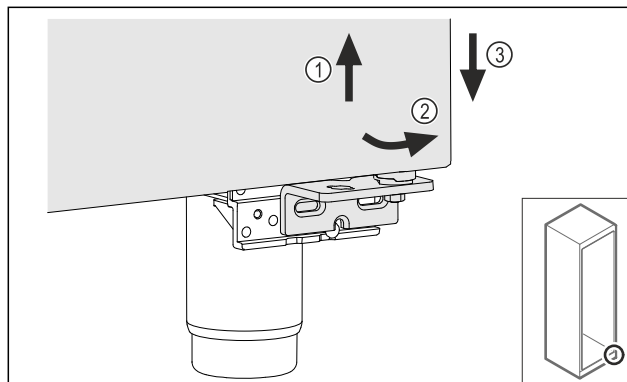

Fig. 21
- Lift the door slightly Fig. 21 (1), tilt it forwards at the bottom Fig. 21 (2) and lower it Fig. 21 (3).